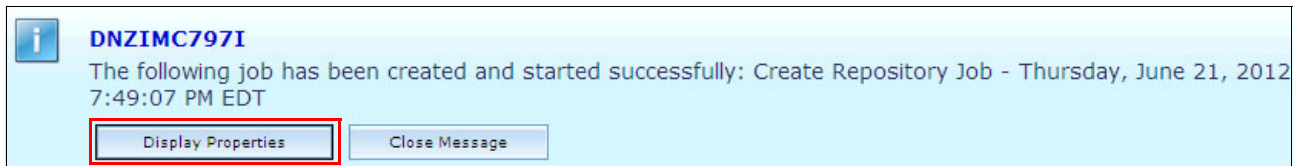

Figure 9-55 Display Properties window
- A blue information window opens as shown in Figure 9-55. Click **Display Properties**.